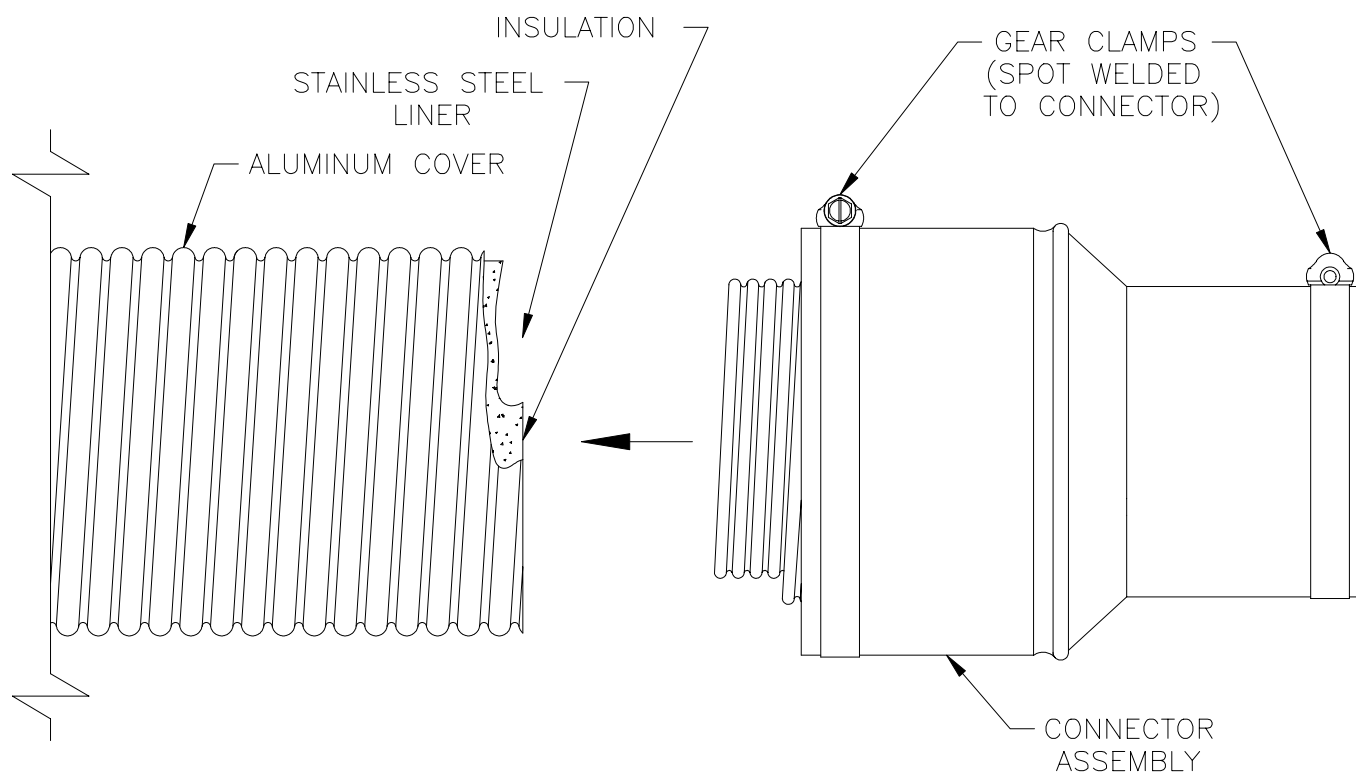

Figure 11: Vent Connector, Un-Assembled
3. Install Vent Connector/Appliance Adaptor. See Figures 11 and 12.